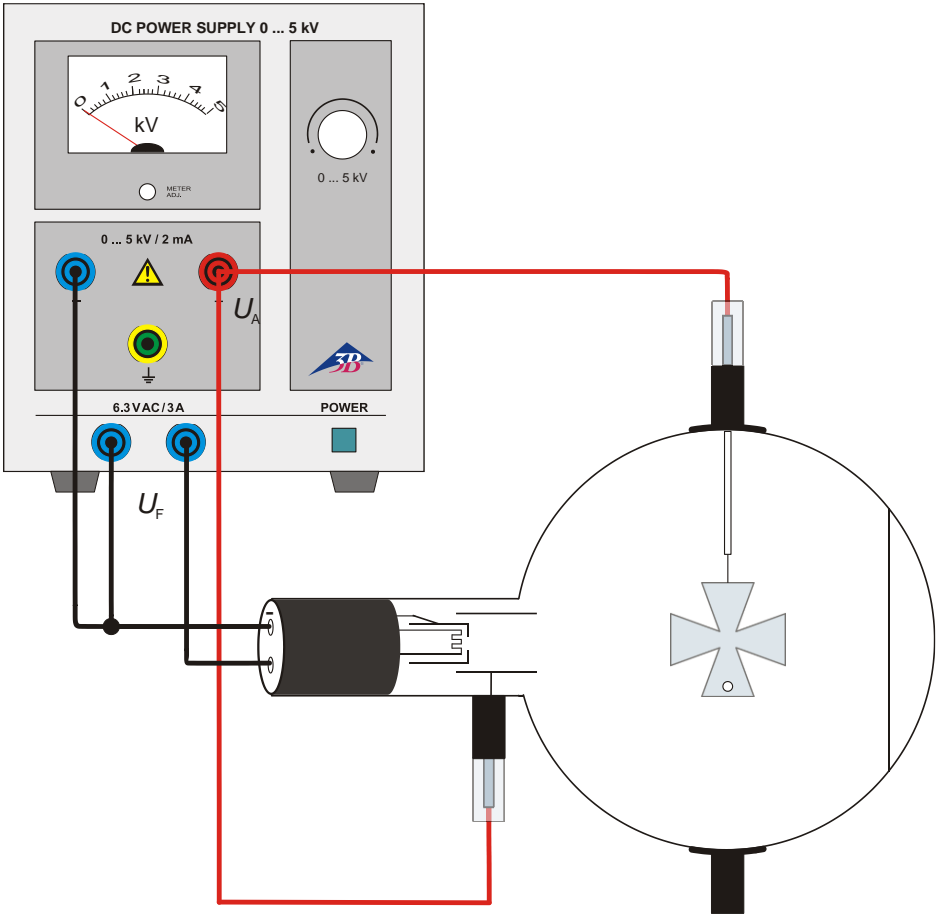

Fig. 1 Linear propagation of cathode rays
- Set up the tube as in Fig 1. Connect the minus-pole of the anode voltage to the 4-mm socket marked with a minus.
- Set up the circuit as in Fig 1.
- Set up the circuit as in Fig 1. Connect the minus-pole of the anode voltage to the 4-mm socket marked with a minus.